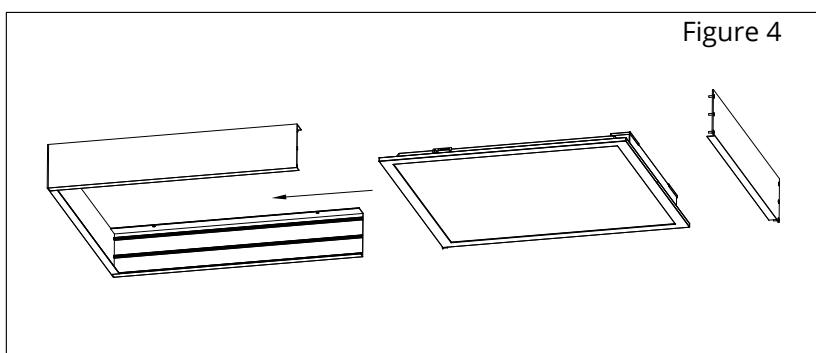

Figure 4
- 4** Unscrew and detach one piece of frame B. Slide the panel fixture into the surface mount frame (refer to Fig 4).